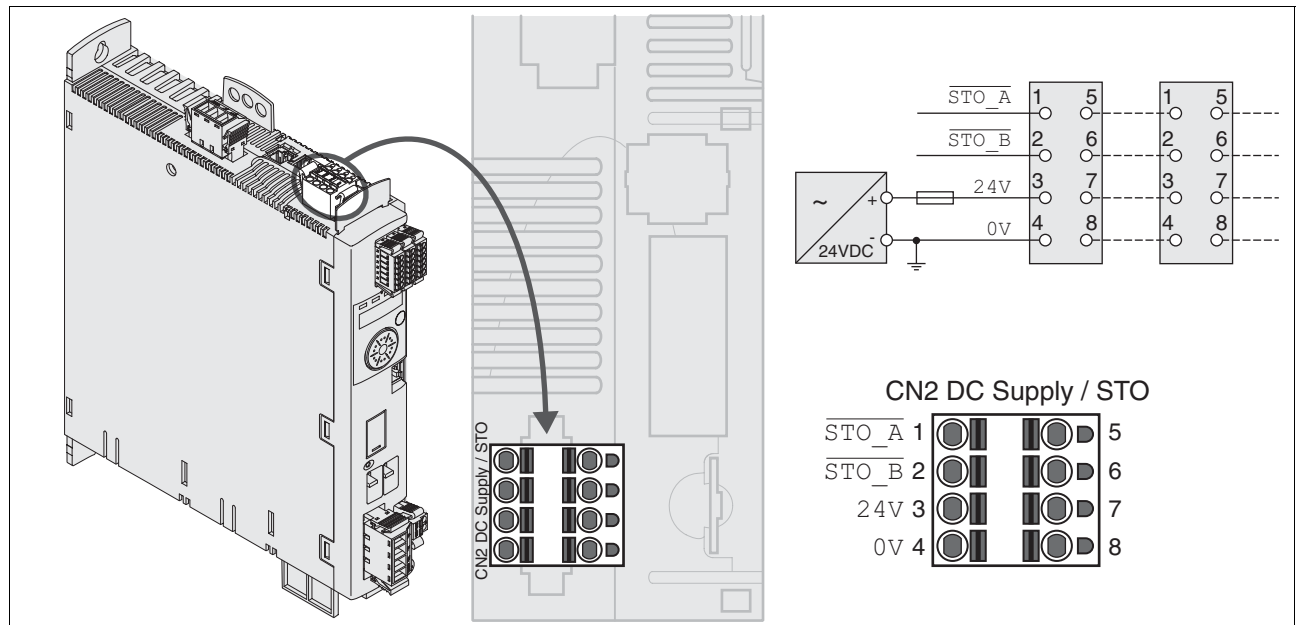

Figure 6.15 Wiring diagram controller supply voltage
- Connection CN2, pins 3 and 7 as well as CN2, pins 4 and 8 (see Figure 6.15) can be used as 24V/0V connections for additional consumers.¹ Note the maximum permissible terminal current ("Properties of spring terminal CN2").